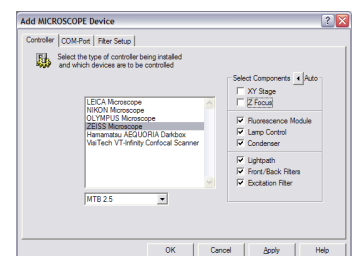

fig.4
9. Select Microscope > Click on COM-Port and select Com-Port > Click on Controller > Click Auto (fig.4) to read setup details previously configured in the microscope. The components list will be updated. Click OK to accept the current settings and close the window.